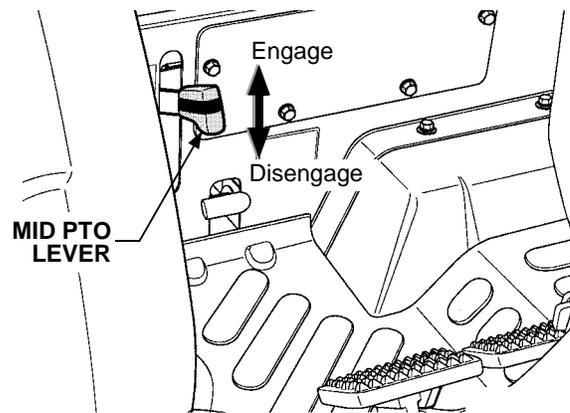

Figure 34
- Pull the lever upward to engage the Mid PTO. See Figure 34.